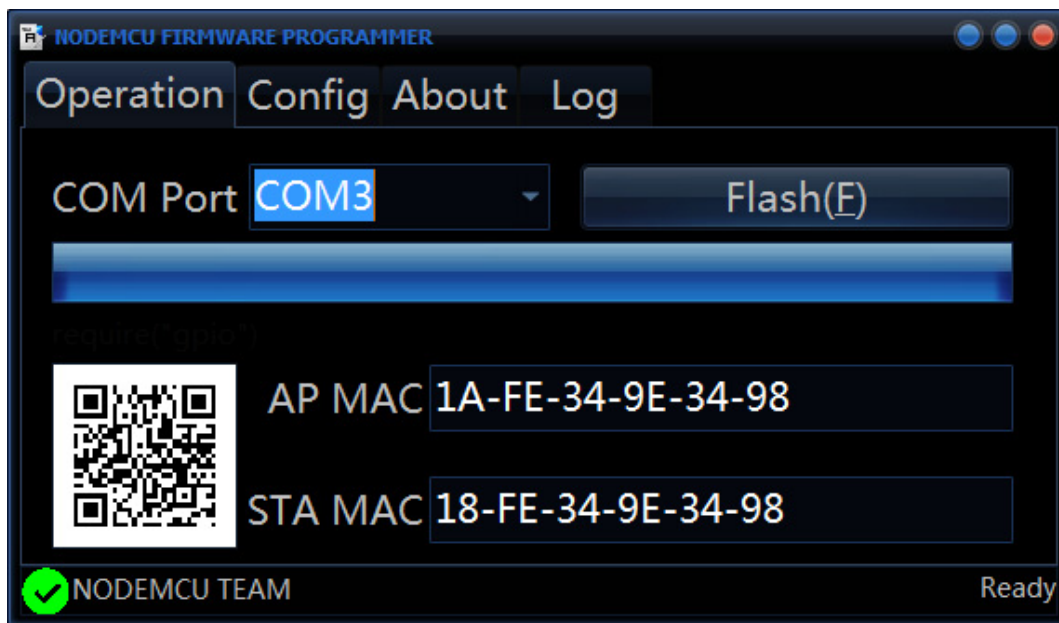

FIGURE 12 – Firmware update completed
5. - After you receive the OK confirmation (green circle on the lower left corner, **figure 12**), close the program, disconnect the USB adapter and you are done! Now remember to remove the jumper from G0 SEL, releasing GPIO 0 from ground.